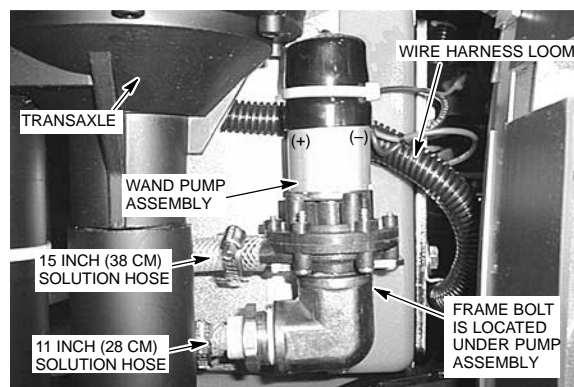

Fig. 1
2. Locate wires #29 black and #56 brown. The wires are taped to the outside of the wire harness loom located near the wand pump mounting area, remove tape (Fig. 1).
3. Before installing pump assembly, connect 15 inch (38 cm) solution hose to pump and 11 inch (28 cm) hose to nylon hose barb, use hose clamps provided (Fig. 1).
4. Loosen machine frame bolt and mount pump assembly as shown, retighten bolt. Route hoses under transaxle (Fig. 1).
5. Connect wire #56 brown to positive (+) terminal on pump and wire #29 black to negative (-) terminal. Install rubber cap on pump and secure with wire tie (Fig. 1)